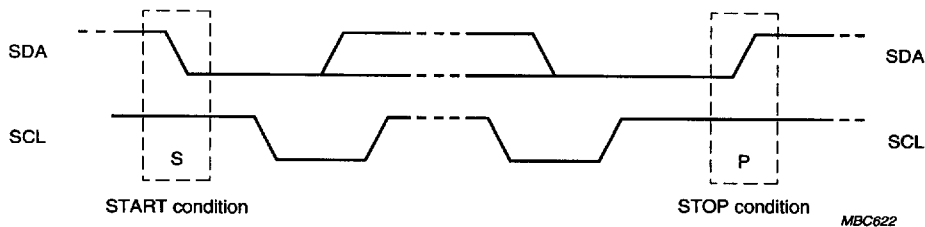

Fig.13 Definition of START and STOP conditions.
**Start and stop conditions (see Fig.13)**